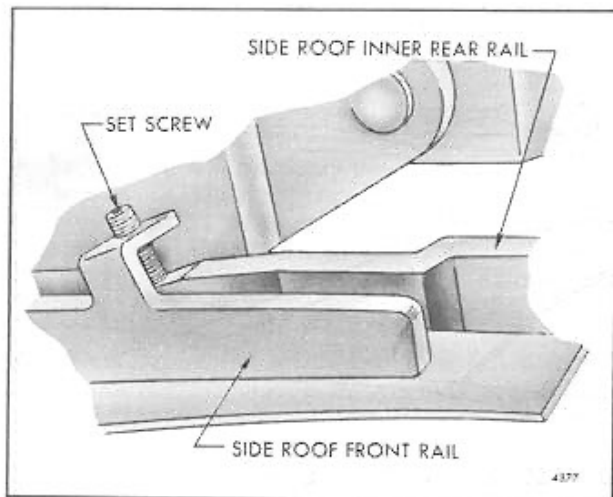

Fig. 24-Side Roof Rail Set-Screw
1. Raise top and back off set screw located at center of each side rail (Fig. 24). Set screw is 1/8 inch hex head.
NOTE: Application of high quality, plastic thread adhesive to exposed threads on each set screw (Fig. 24) is recommended at this time. Follow label directions.